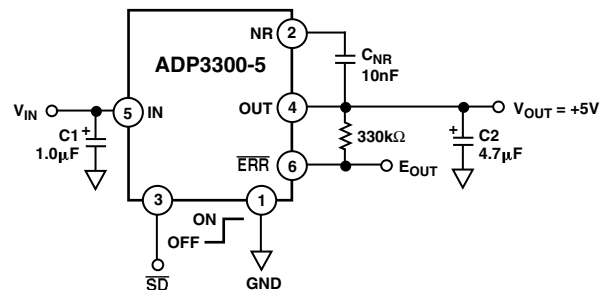

Figure 21. Noise Reduction Circuit
A noise reduction capacitor (C_{NR}) can be used to further reduce the noise by 6 dB–10 dB (Figure 21). Low leakage capacitors in the 10 nF–100 nF range provide the best performance. For load current less than 200 μA , a 4.7 μF output capacitor provides the lowest noise and the best overall performance. Since the noise reduction pin (NR) is internally connected to a high impedance node, any connection to this node should be carefully done to avoid noise pickup from external sources. The pad connected to this pin should be as small as possible. Long PC board traces are not recommended.